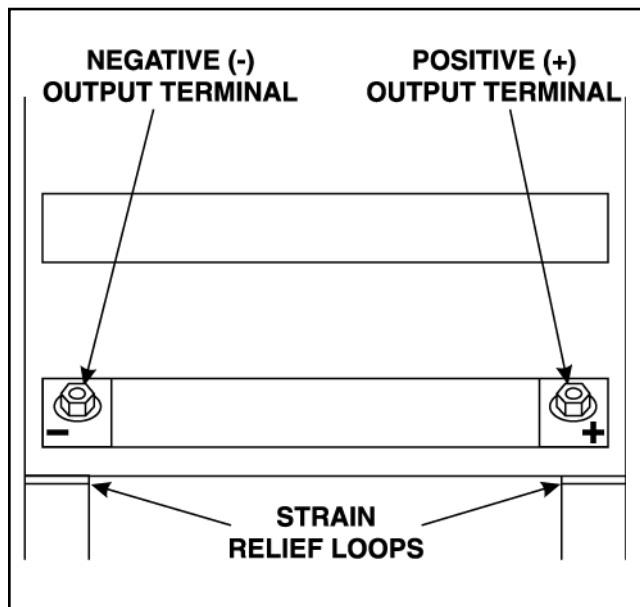

FIGURE A.4 - Output Terminals.
2. Locate the retractable strain relief loops directly below the output terminals in the lower right and lower left corners of the Case Front Assembly. See Figure A.4.